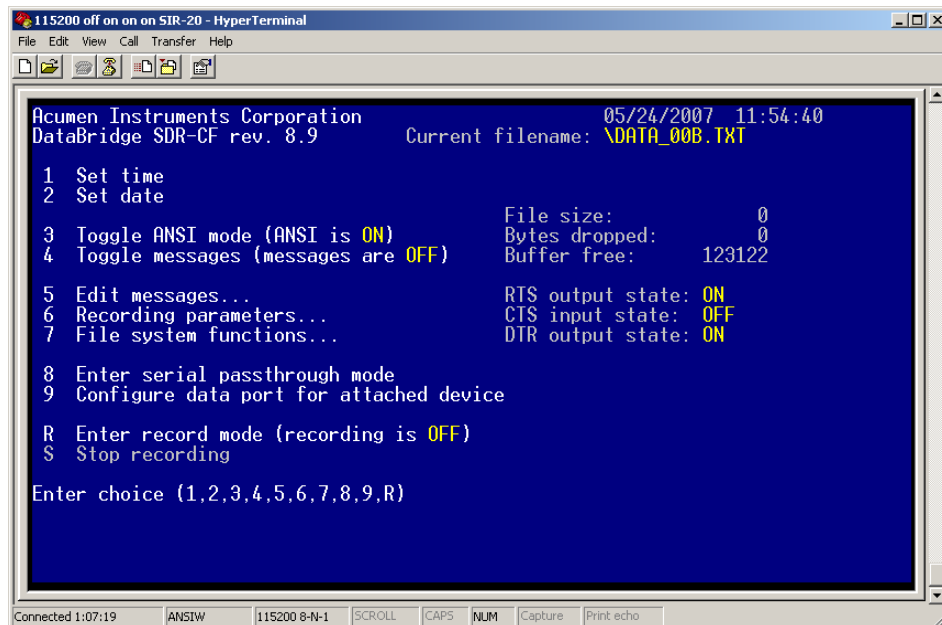

Figure 1: Data Logger Main menu.
- 3** Connect the power to the data logger. You should see the Main menu (Figure 1). If you don't see the Main menu, press the **Enter** key. Sometimes you'll need to do this to bring up the screen below.